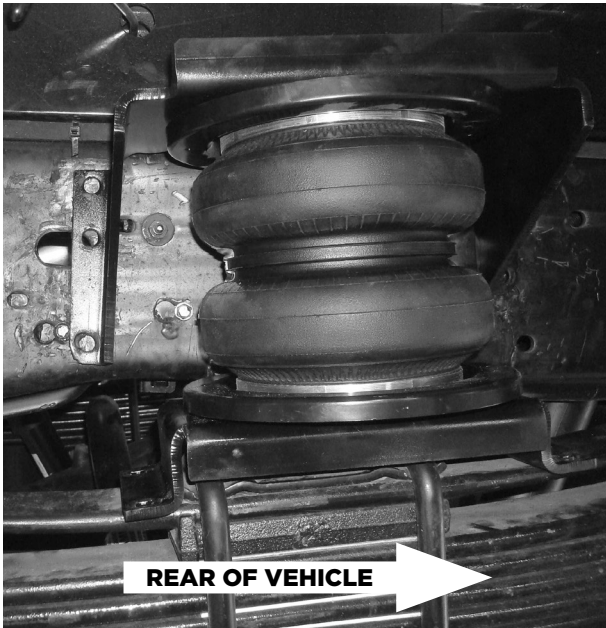

Fig. 7
4. A completed assembly is shown in Figure 7.